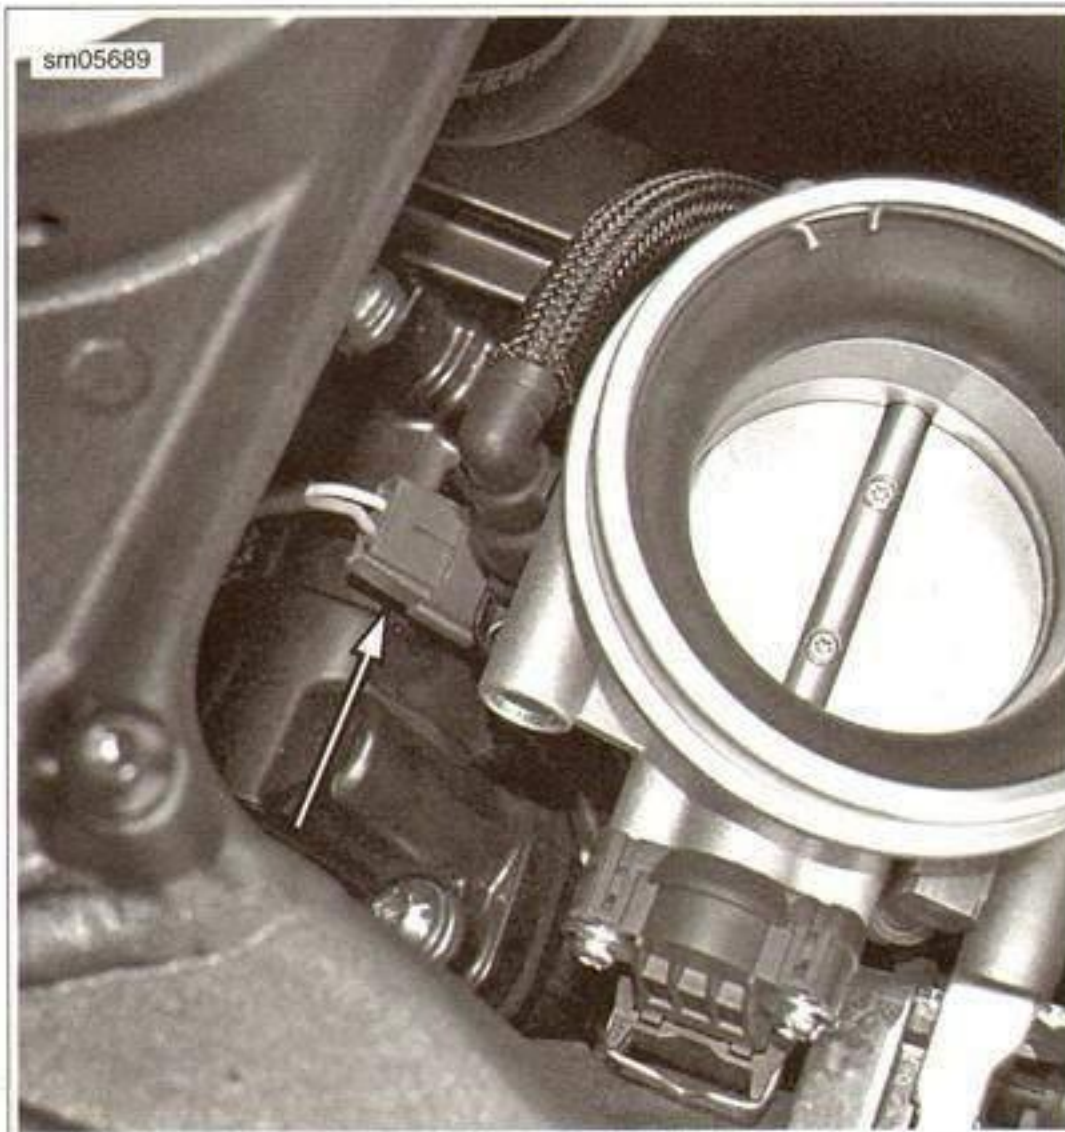

Figure 4-31. Front Fuel Injector [84]
1. See Figure 4-31. Remove the fuel rail. See 4.5 THROTTLE BODY, Fuel Rail.
- a. See Figure 4-31. Front fuel injector [84]